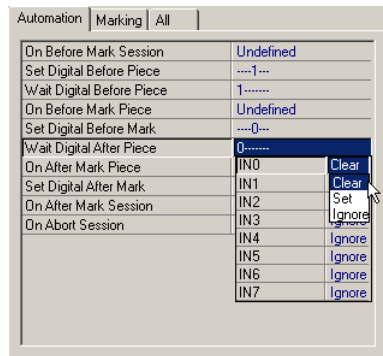

Figure 11-6 Clearing “Wait Digital After Piece”
- 2 Click *IN0* then select *Clear* from the drop-down list (Figure 11-6).